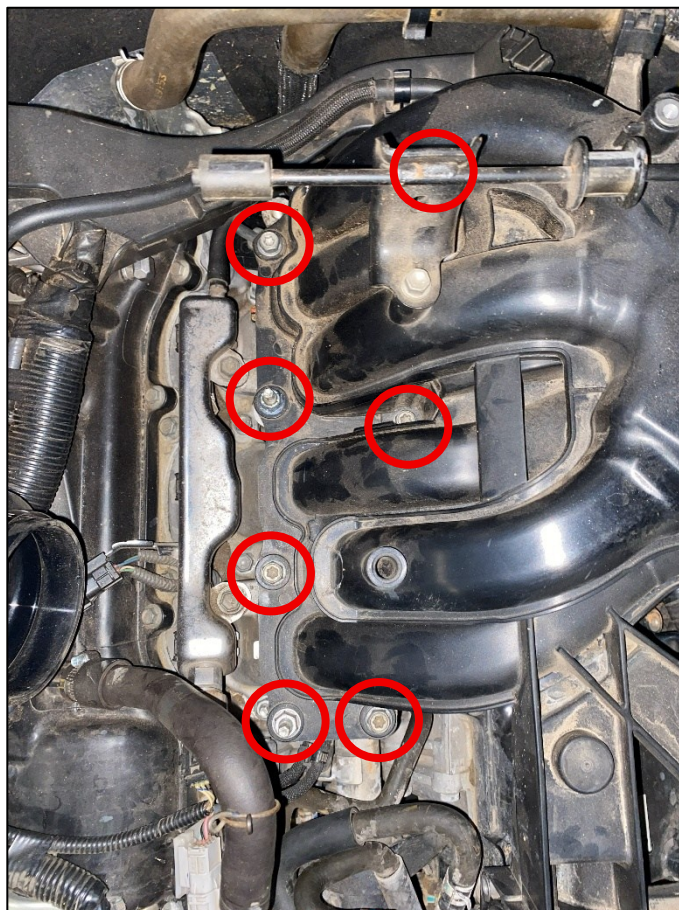

Figure 5
11. Remove the (7) seven nuts and bolts securing the Upper Manifold to the Lower Manifold. *Figure 5.*